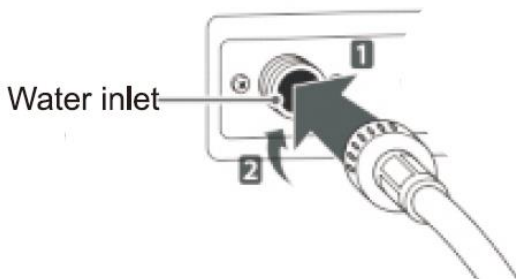

Fig. 8
4. Firmly attach the other end of the hose to the outlet of the washing machine by hand, and then tighten another 2/3 turns with pliers. (see fig. 8)